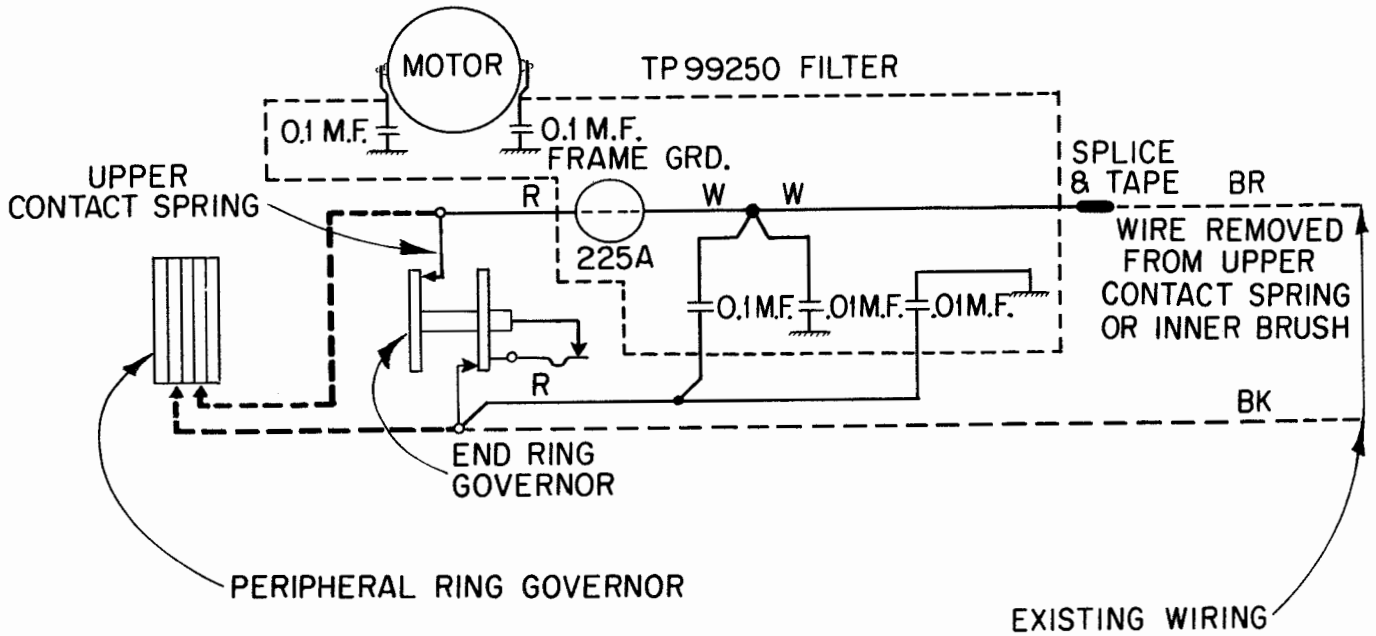

Figure 1
2.04 Refer to Figure 1 and connect the filter unit as follows:
- (1) Connect the free lead of the individually mounted capacitor to the brush on the same side of the motor.
- (2) Connect the free lead of the inner capacitor (the one in the group of 4 which is nearest to the motor shaft) to the brush on the opposite side of the motor.
- (3) Remove the brown wire connected to the upper (outer contact) spring of the end-ring governor contacts and splice this wire to the white coil lead and its associated capacitor leads. Solder and tape this connection.
- (4) Connect the red lead from the coil to the upper (outer contact) spring of the end-ring governor contact cutting this lead to make the connection as short and direct as practicable.
- (5) Connect the red lead joining the two remaining capacitors to the bottom (inner contact) spring of the end-ring governor contacts leaving the black wire already on this spring in place.
- (6) In connecting the filter to the peripheral-ring governors, the red lead from the coil should connect to the brush associated with the inner ring.
- (7) Check the connections to see that they are in accordance with Figure 1.